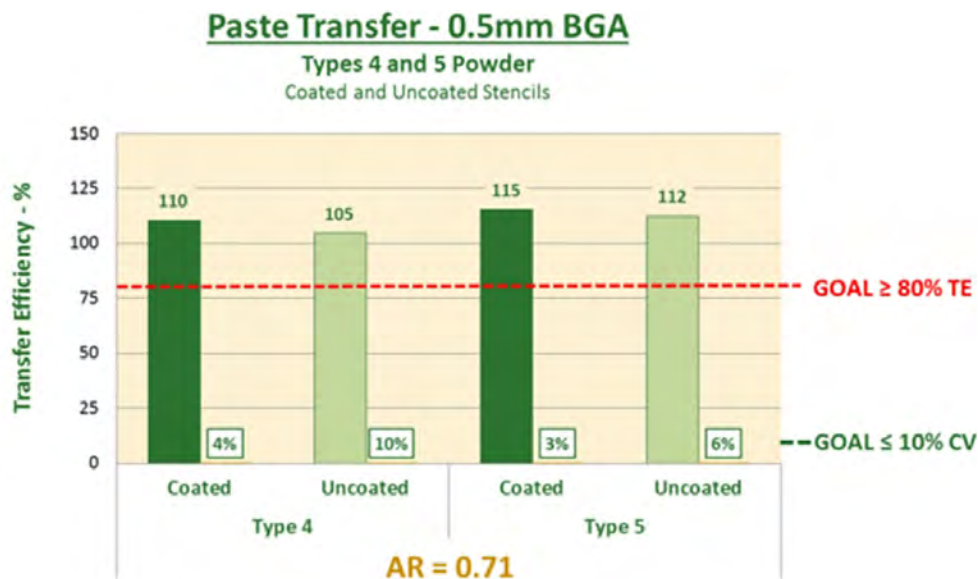

Figure 3: Print performance of Types 4 and 5 powder with 0.5 mm BGA.
Figures 3 and 4 shows the Transfer Efficiency (TE), or the percentage of theoretical aperture volume that was deposited and the associated Coefficients of Variation (CVs) for the
Figures 3 and 4 show that all the print results were within our prescribed limits of $\geq 80\%$ TE and $\leq 10\%$ CV for both T4 and T5 pastes and coated and uncoated stencils. Comparing the results of T4 and T5, T5 gives very little advantage over T4, with the one